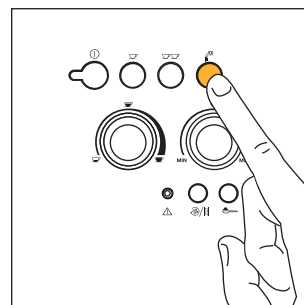

Fig.21
- Press the ☞ button (fig. 21). The ☞ light comes on to indicate that the function has been selected.
- Press the ☞ button (fig. 21). (It is recommended to deliver hot water for no more than 2 minutes).